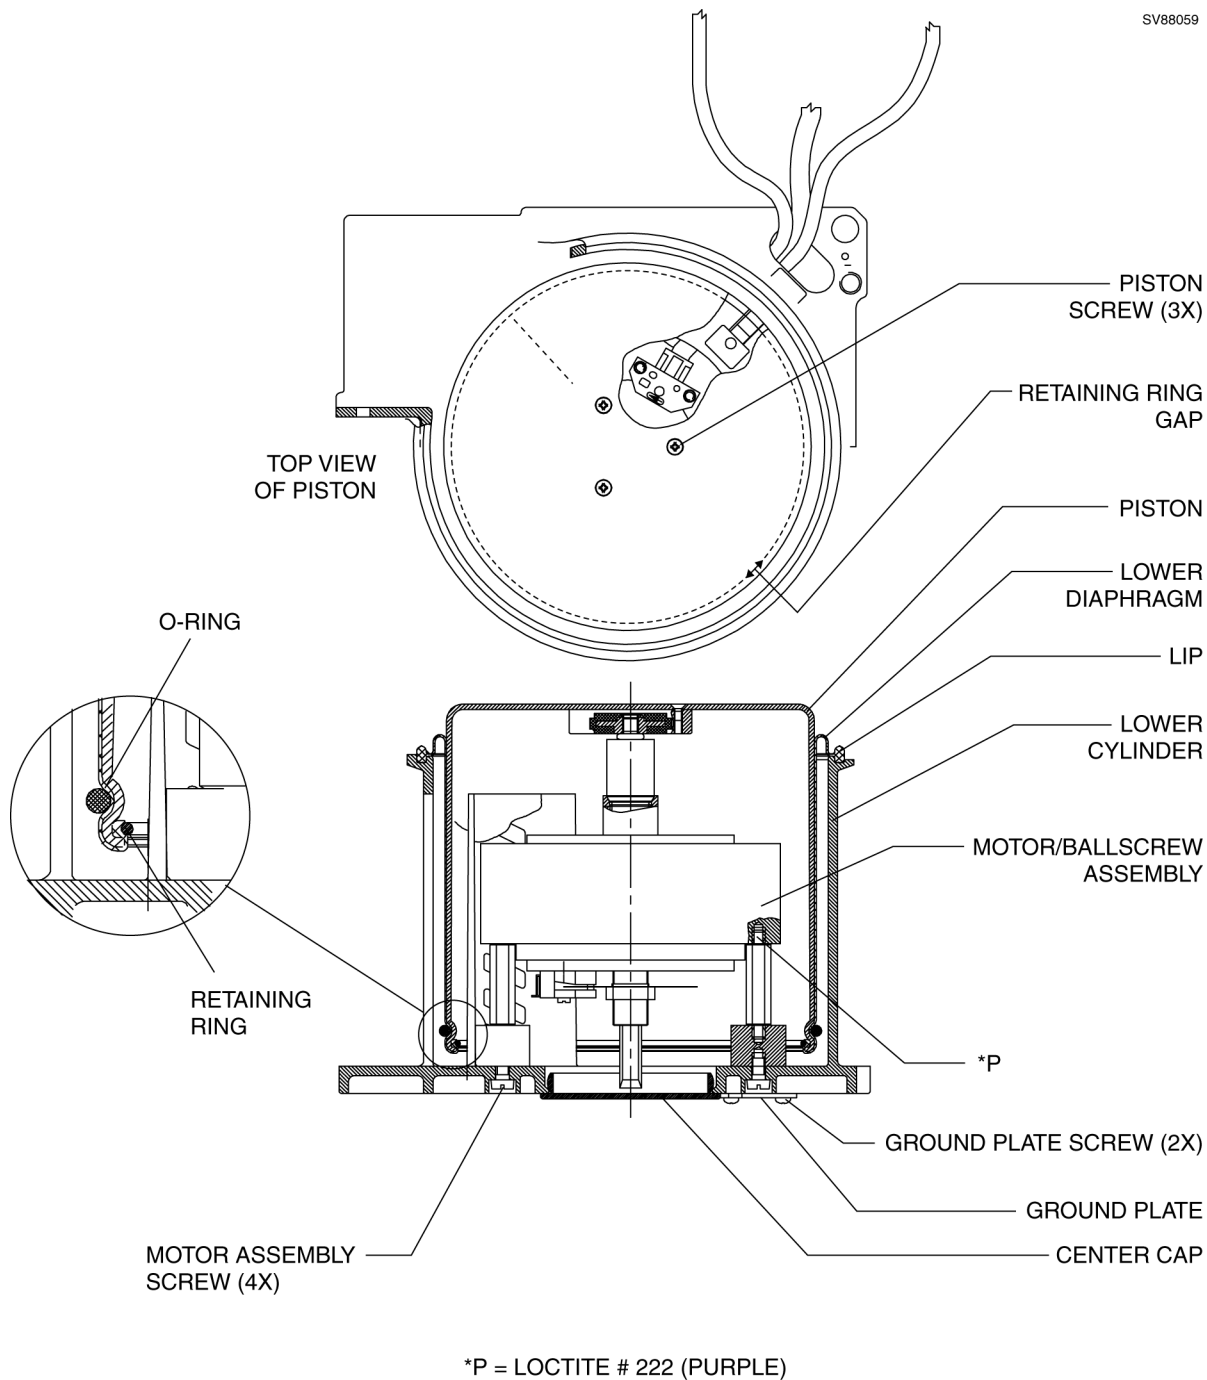

Figure 14 Lower Cylinder and Motor Assembly Details
The ventilator and door assembly are retained in the monitor housing by a hinge rod. Figure 9 and Figure 10 show the hinge arrangement and the disconnects needed to remove the ventilator from the machine. Figure 14 shows the lower cylinder and motor arrangement. While it is possible to service some components without removing the ventilator assembly from the machine, the complete disassembly sequence is given below.
22. Using the proper 'Pozi' driver, remove the three screws from the top of the piston. See Figure 14.
26. Install the replacement diaphragm down over the piston; fold the lower lip of the diaphragm (now facing up) over the piston and reinstall the retaining ring in the inner groove of the diaphragm inside the piston. See Figure 12 and Figure 14.
The gap in the retaining ring (circlip) shall be aligned opposite the mark on top of the piston as shown in Figure 14. This note does not apply to later units where the mark on the piston does not exist.